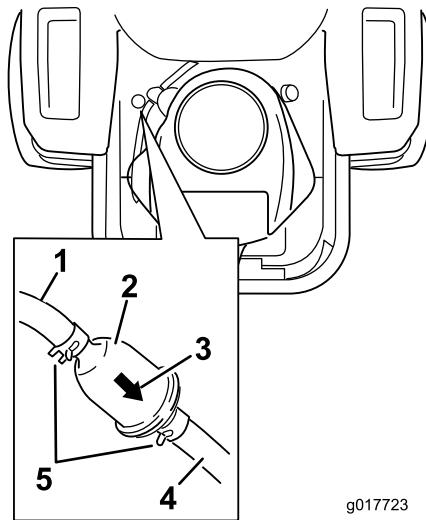

Figure 38
4. Raise the seat and locate the fuel filters as shown in Figure 38.